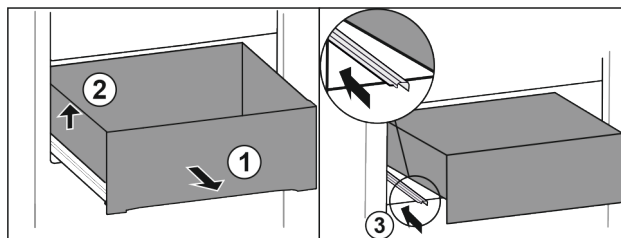

Fig. 86
- ▶ Pull out drawer as far as it will go. Fig. 86 (1)
- ▶ Lift drawer on the left. Fig. 86 (2)
- ▶ Slide in left rail. Fig. 86 (3)